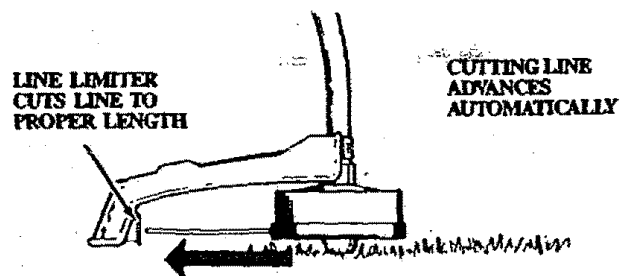

Figure 14
- Always keep the shield in place when the tool is being operated. Figure 14.